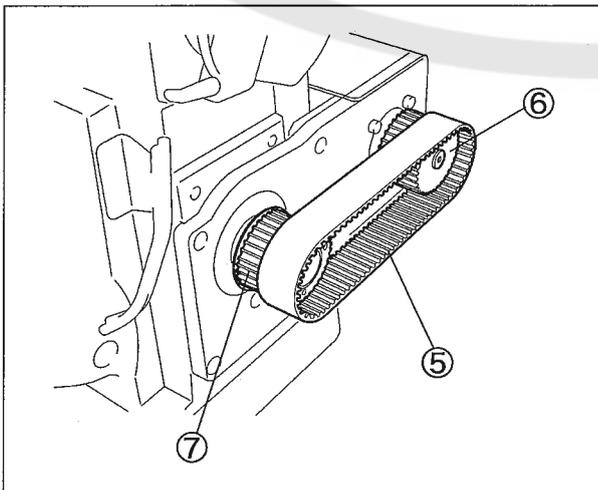

Fig. 12
3. Remove the timing belt⑤ while turning the pulley⑦. (Fig. 12)